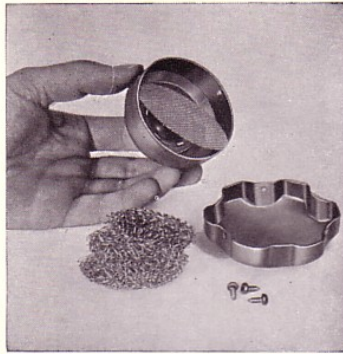
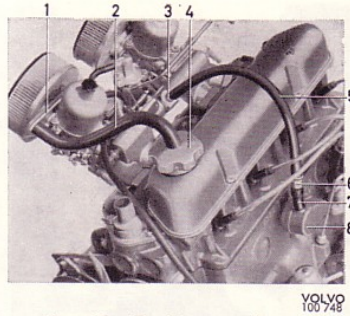

Fig. 12. Oil filling cap
Fig. 13. Positive crankcase ventilation
(concerning number references, see Fig. 13)
In order for the crankcase ventilation system to function satisfactorily, the filter in the oil filling cap should be removed and cleaned after every 10 000 km (6 000 miles). The cap is removed, the three screws (Fig. 12) unscrewed and the cover lifted off. The filter is cleaned in white spirit dried and then moistened with light oil. Before fitting the cap, check and replace the gasket if necessary. On engines with positive crankcase ventilation (Fig. 13), the valve (6) should be replaced every 40 000 km (25 000 miles). At the same time, the oil trap (8), hoses, nipple (3) and intermediate part (1) should be removed and thoroughly cleaned. If the hoses are damaged, they must be replaced. The oil filling cap filter should also be cleaned as described above.